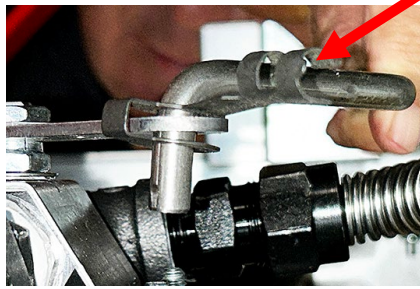

Figure 5
12. Place the clevis hook over the dispose valve assembly handle. Insert the handle assembly rod through the clevis clip, through the handle into the dispose assembly. Rotate the clip over the rod and snap into place as shown (see Figure 5).